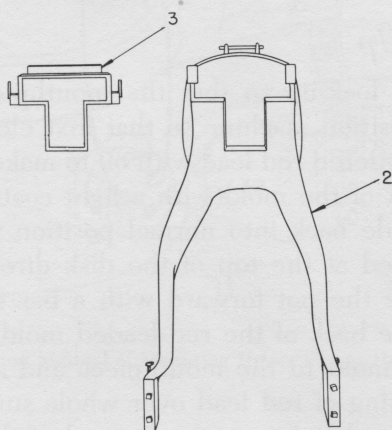

FIGURE 2—View of Pot Jacket and Lower Throat Heater Terminal Cover
4. The Pot Jacket—To provide clearance and accessibility to the lower throat heater a portion of the jacket has been cut away. See Fig. 2. This permits replacement of the lower throat heater without removing crucible from pot jacket. A sheet metal cover is held over this "T" cut by three screws, Fig. 2.